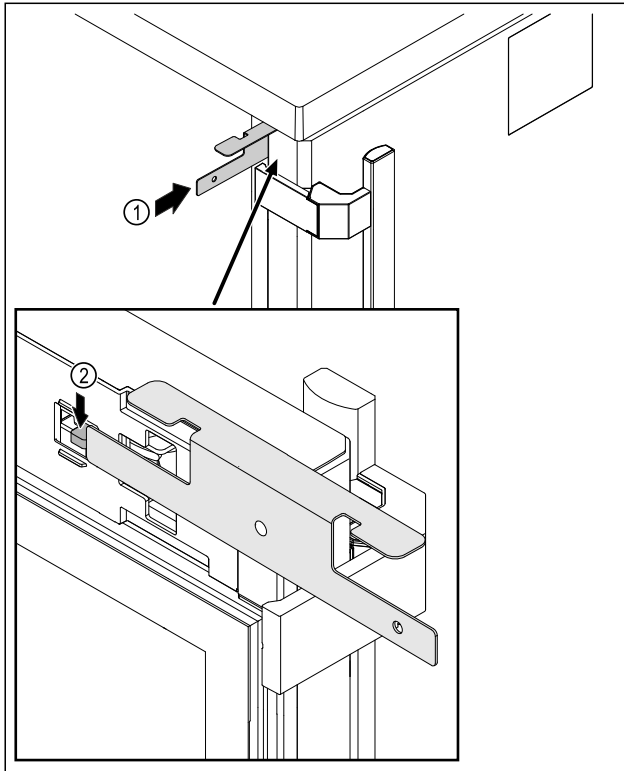

Fig. 218
- ▶ Insert the emergency release key Fig. 218 (1) between the door and the body of the appliance.
- ▶ Press the lock hook Fig. 218 (2) towards the hinge.